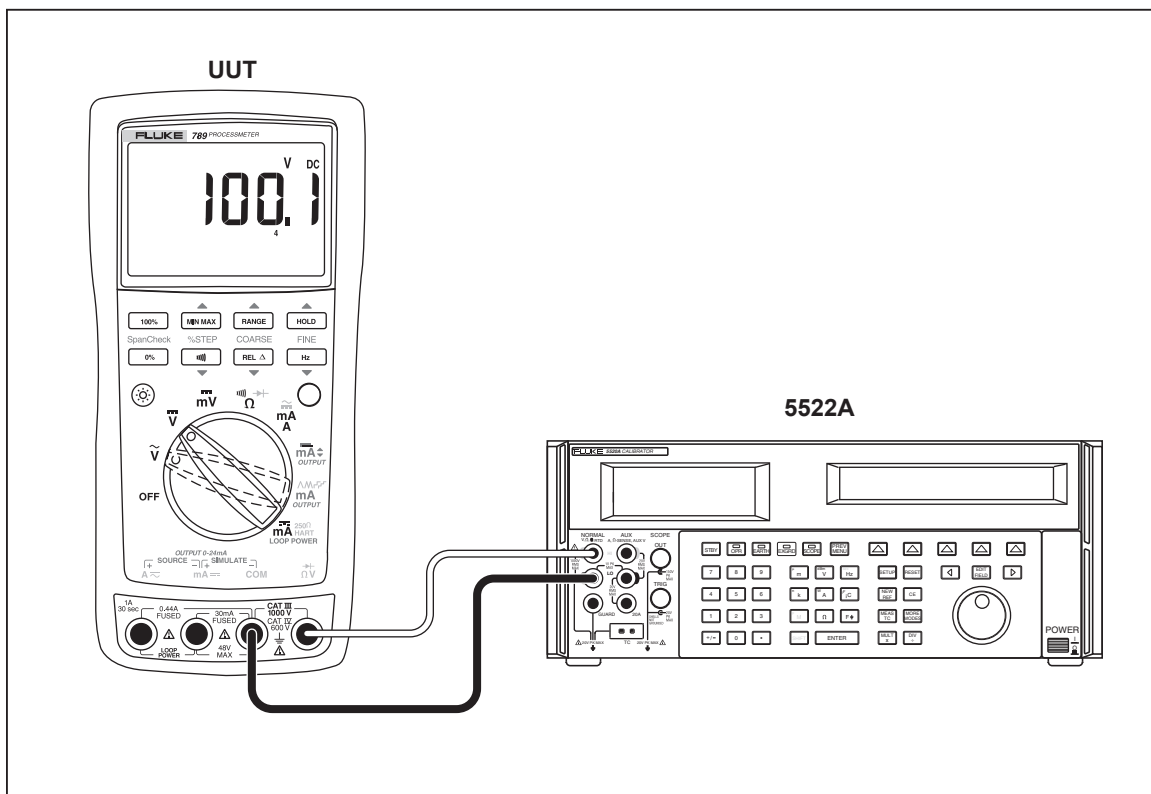

Figure 9. AC/DC Voltage Measurement Test Connections
3. Connect the calibrator to the **COM** and  $\bar{V}$  terminals on the UUT as shown in Figure 9.
3. Connect the calibrator to the **COM** and  $\Omega V$  terminals on the UUT as shown in Figure 9.